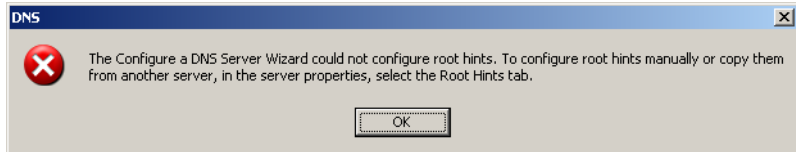

Figure D-56 DNS error message
15. When the **DNS** error message shown in figure D-56 is displayed, dick the **OK** button.